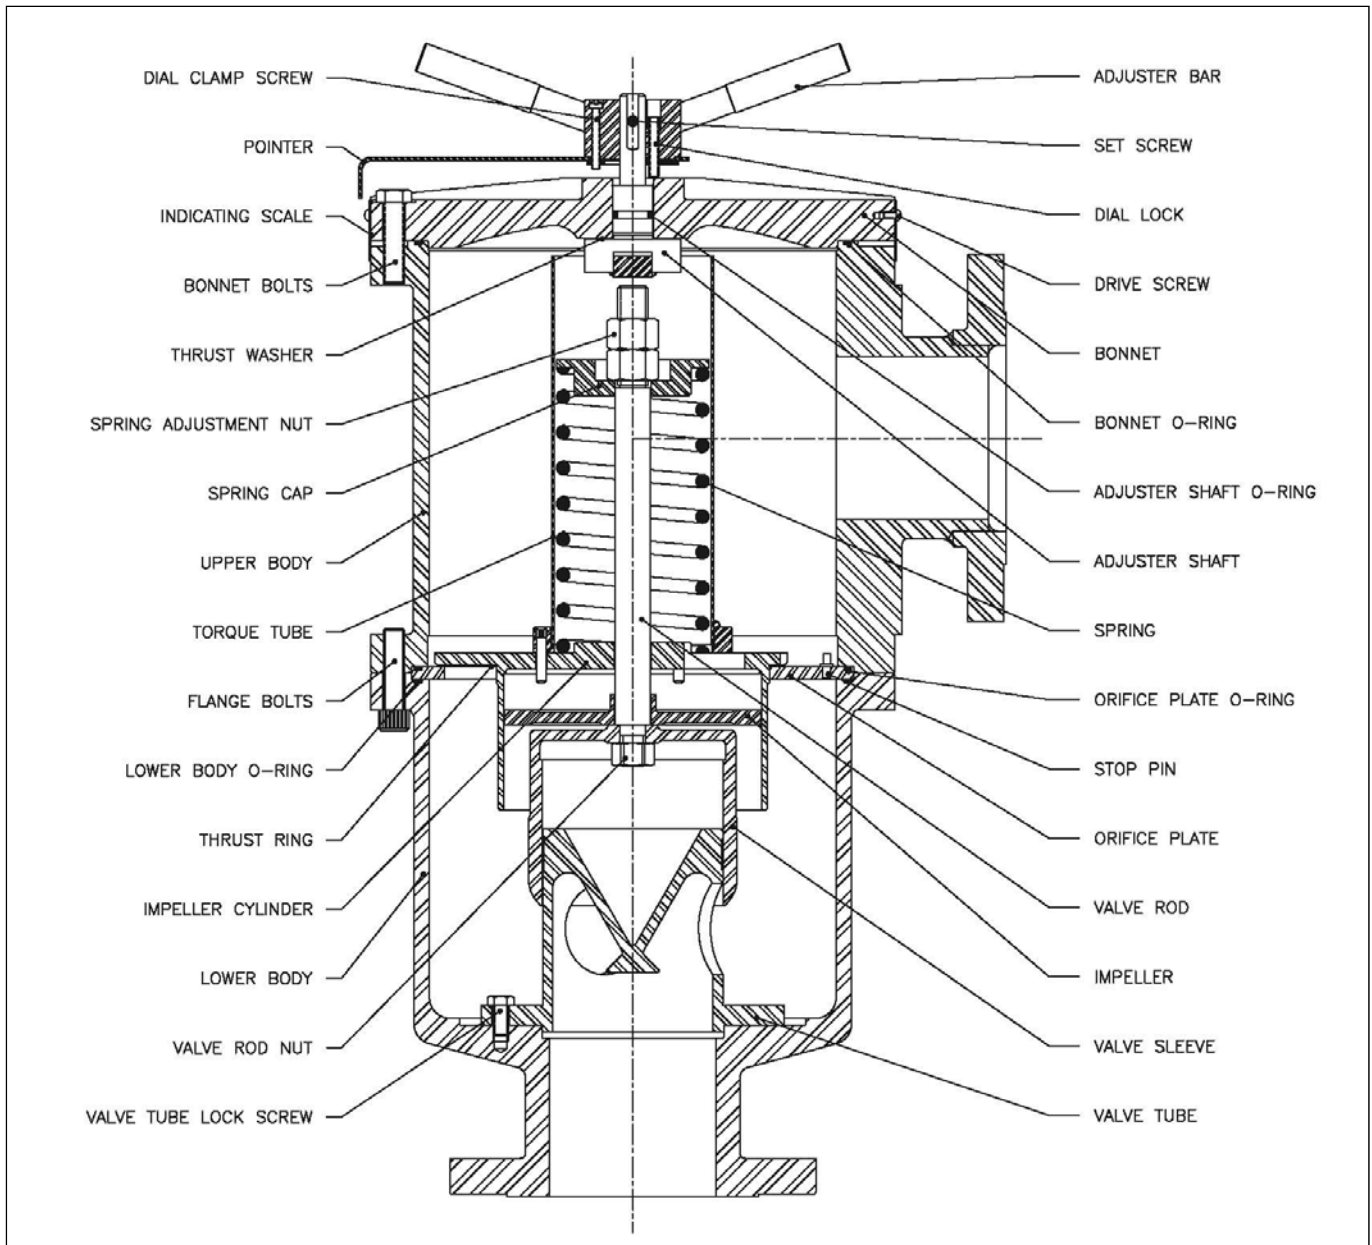

Figure 1
- d. Lower the bonnet slowly, at the same time turning the flow rate adjuster bar until the slot on the end of the adjuster shaft fits over the cross bar in the torque tube, and the shoulder on the lower face of the bonnet fits into the body. (Note: If the flow rate setting knob does not turn, loosen the dial lock screw. See figure 1) When properly assembled, the bonnet will seat squarely on the body all the way around. (See figure 1)